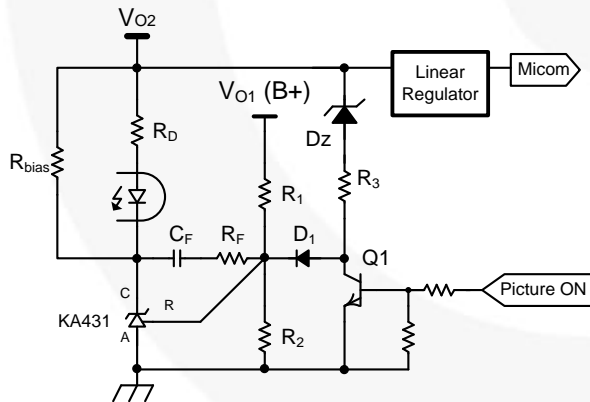

Figure 36. Typical Feedback Circuit to Drop Output Voltage in Standby Mode
6. Burst Operation: To minimize the power consumption in the standby mode, the FSCQ series employs burst operation. Once FSCQ series enters burst mode, FSCQ series allows all output voltages and effective switching frequency to be reduced. Figure 36 shows the typical feedback circuit for C-TV applications. In normal operation, the picture on signal is applied and the transistor Q₁ is turned on, which decouples R₃, D_Z and D₁ from the feedback network. Therefore, only V_{O1} is regulated by the feedback circuit in normal operation and determined by R₁ and R₂ as: